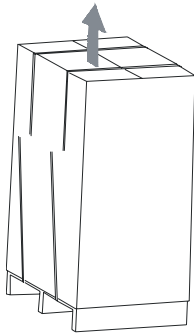

Fig. 1
1. Remove the packaging bands and lift up the cardboard box to remove it (see Fig. 1)